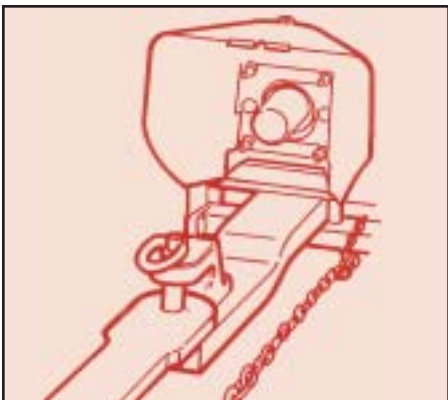

Figure 4 - Keep hitches low and always on the drawbar.
**Keep hitches low and always on the drawbar.** Otherwise, your tractor might flip over backwards. (See Figure 4.)